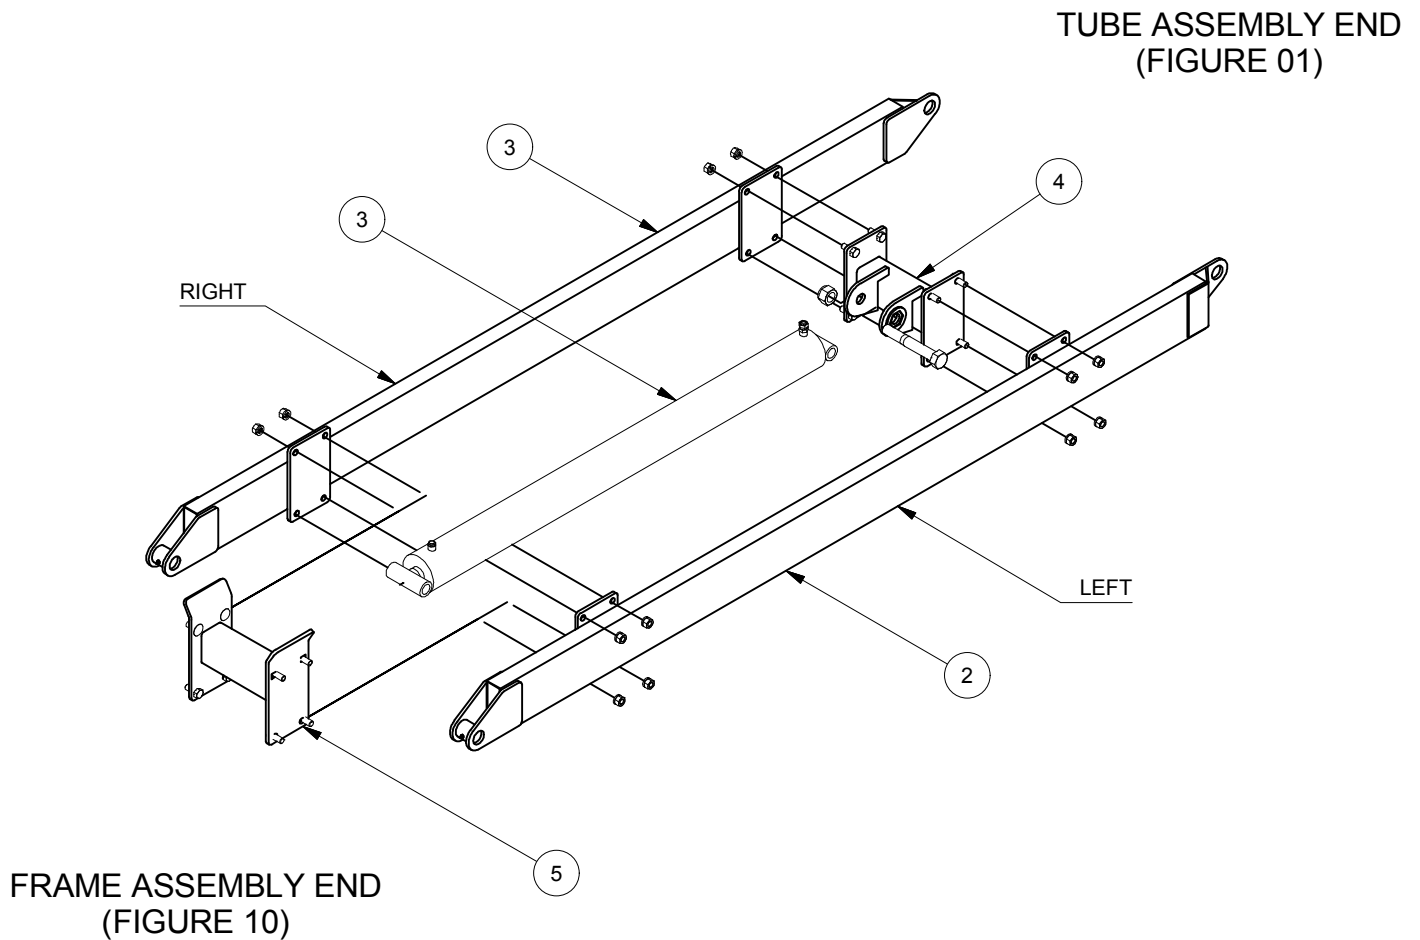

FIGURE 09
1. Lay frame out as shown in **(FIGURE 09)**. Ensure items **1 & 2** are on two 2x4's FLAT.
(FIGURE 09)